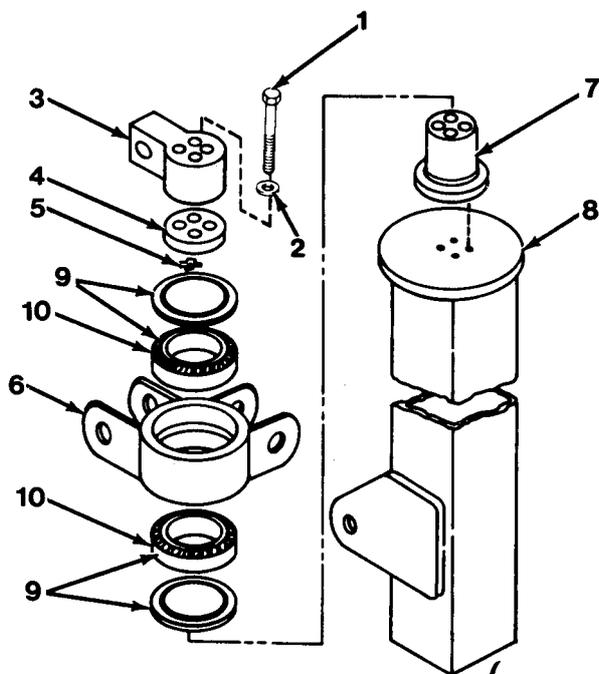

Figure 18-1
1. Install spud (7) to mast (8, Figure 18-1),
2. Pack cups (10) with grease ML-G- 10924.
3. Install two cups (10) and cones (9) into swivel (6).
4. Press and install swivel (6) onto spud (7).
5. Install shims (5), spacer (4), cap (3), four washers (2) and capscrews (1) to swivel (6). Torque capscrews (1) to 74 lb-ft (100 N•m),